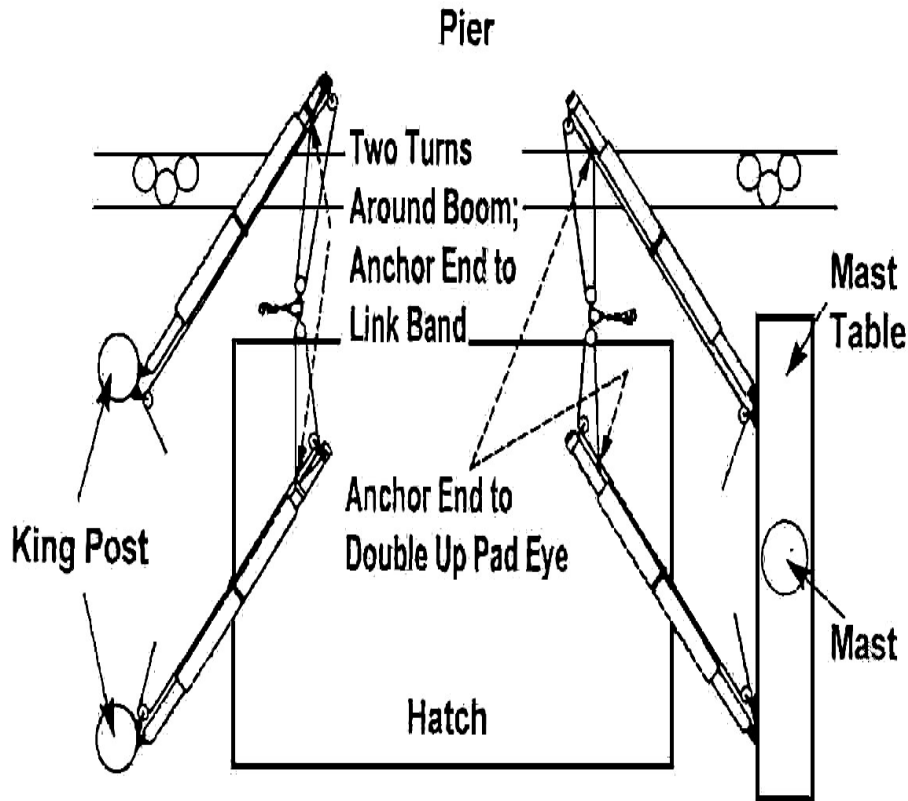

Figure 3-150
1. Reeve the ends of the cargo runners through 12- and 14-inch blocks (see Figure 3-150).